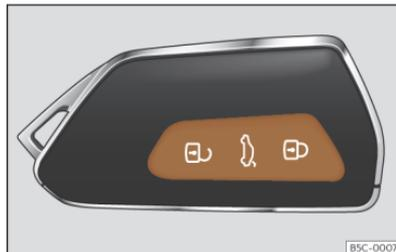

Fig. 84 Remote control key: keys.
- Lock: press the  >>> Fig. 84 button.